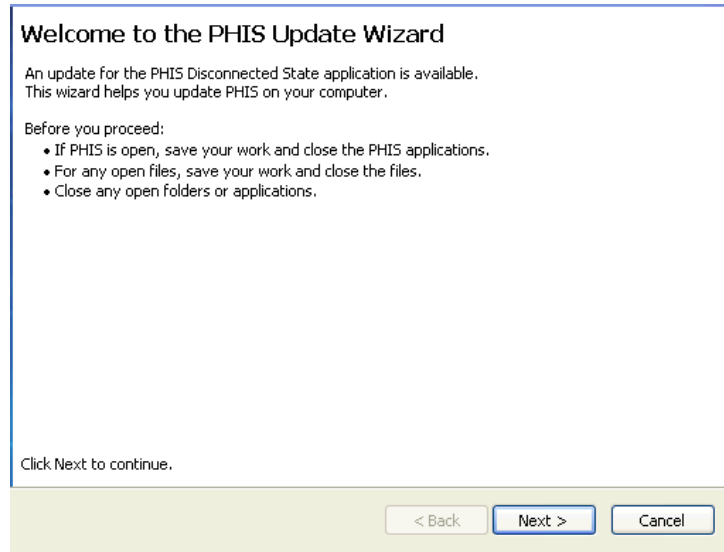

Figure 2: The PHIS Update Wizard
2. If the PHIS Update window appears (see Figure 2: The PHIS Update Wizard), follow the instructions to update your software; otherwise, go to the next step.